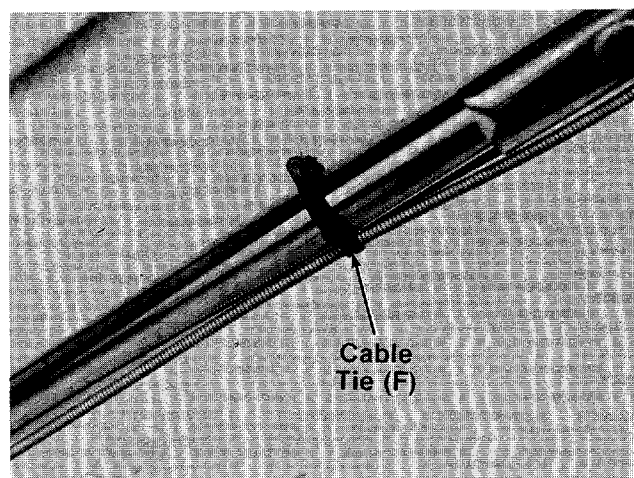

FIGURE 8.
14. Secure control cables to upper and lower handles with cable ties (F). See figure 8.